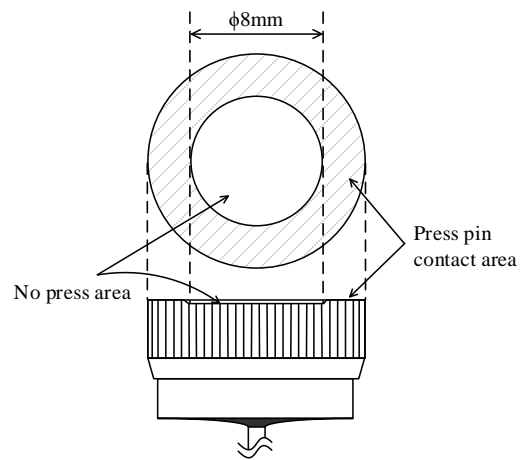

Figure 24 Press Pin Contact Area
- Press pin contact area: See Figure 24 (The press pin must not be pressed to “No press area”)